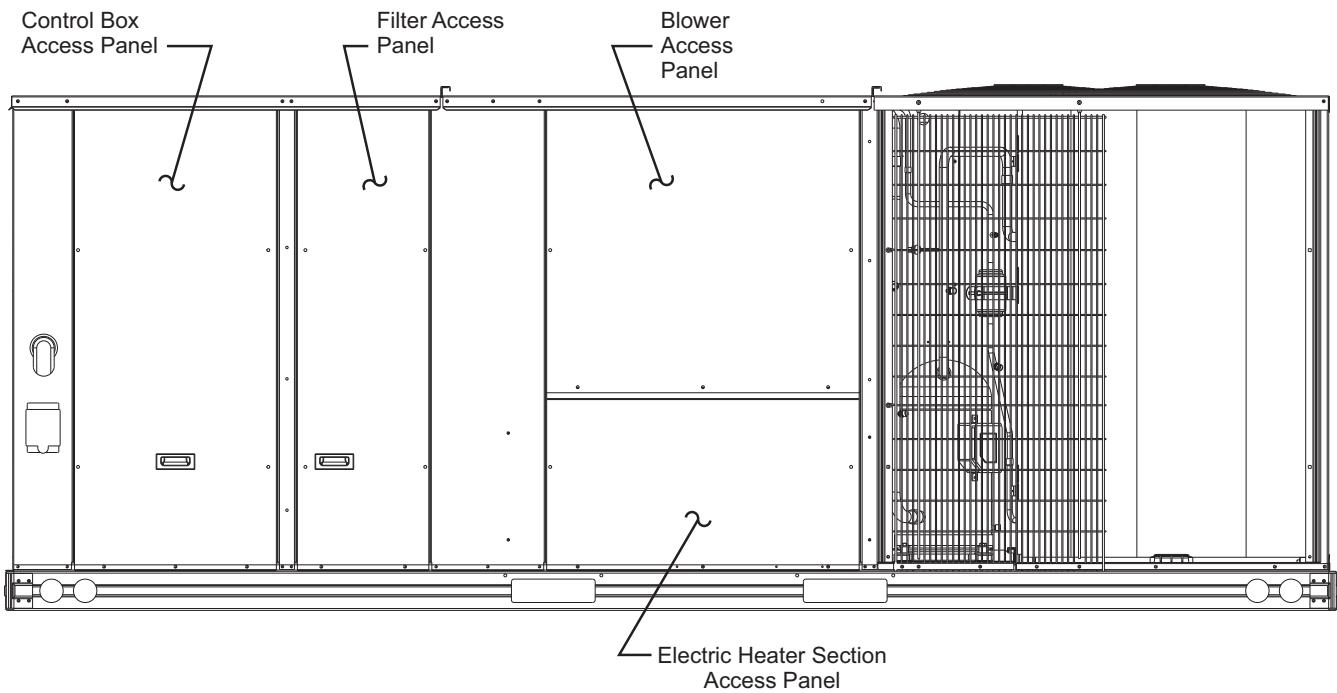

Fig. 48 — Typical Unit – Access Panel Locations
2. Remove electric heater section access panel, control box access panel, filter access panel, and blower access panel from base rooftop unit. (See Fig. 48.)